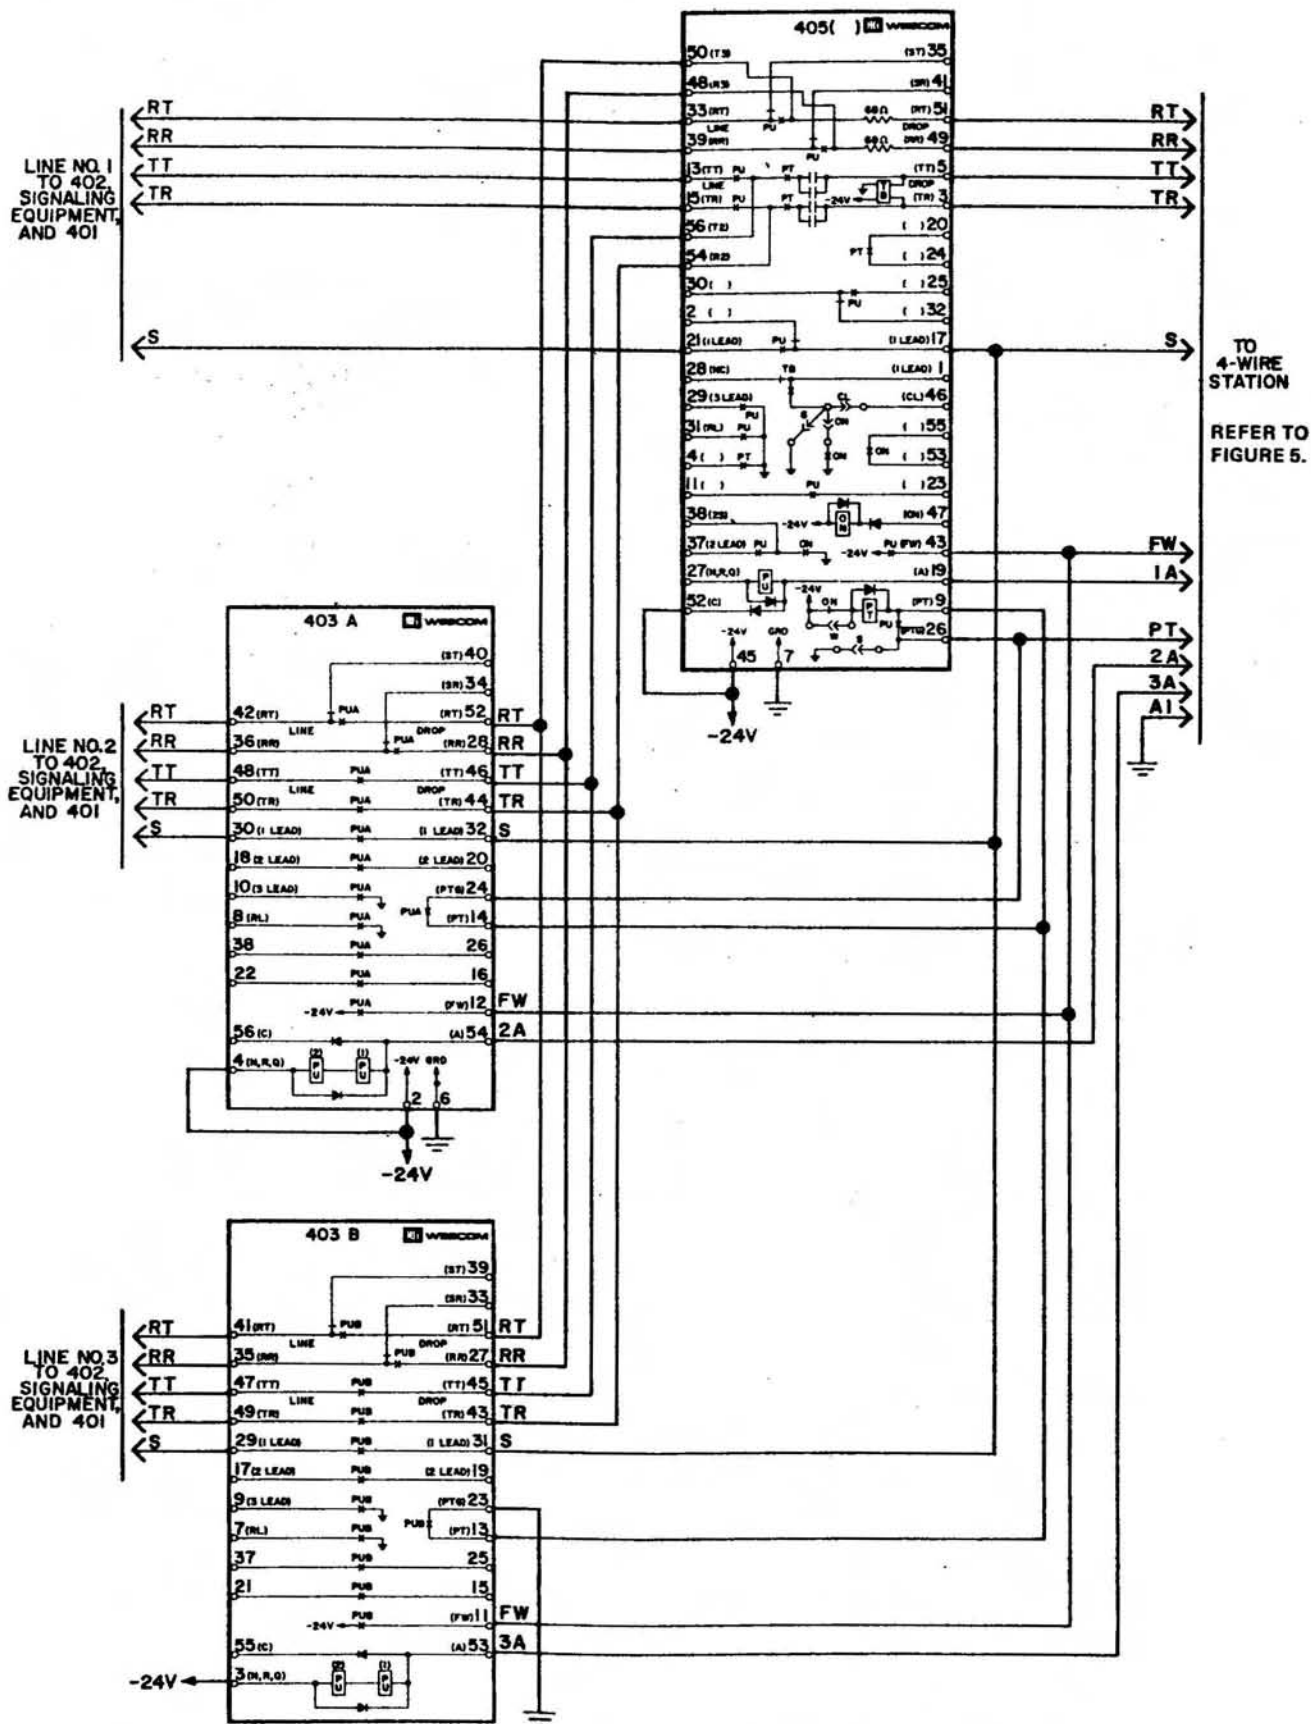
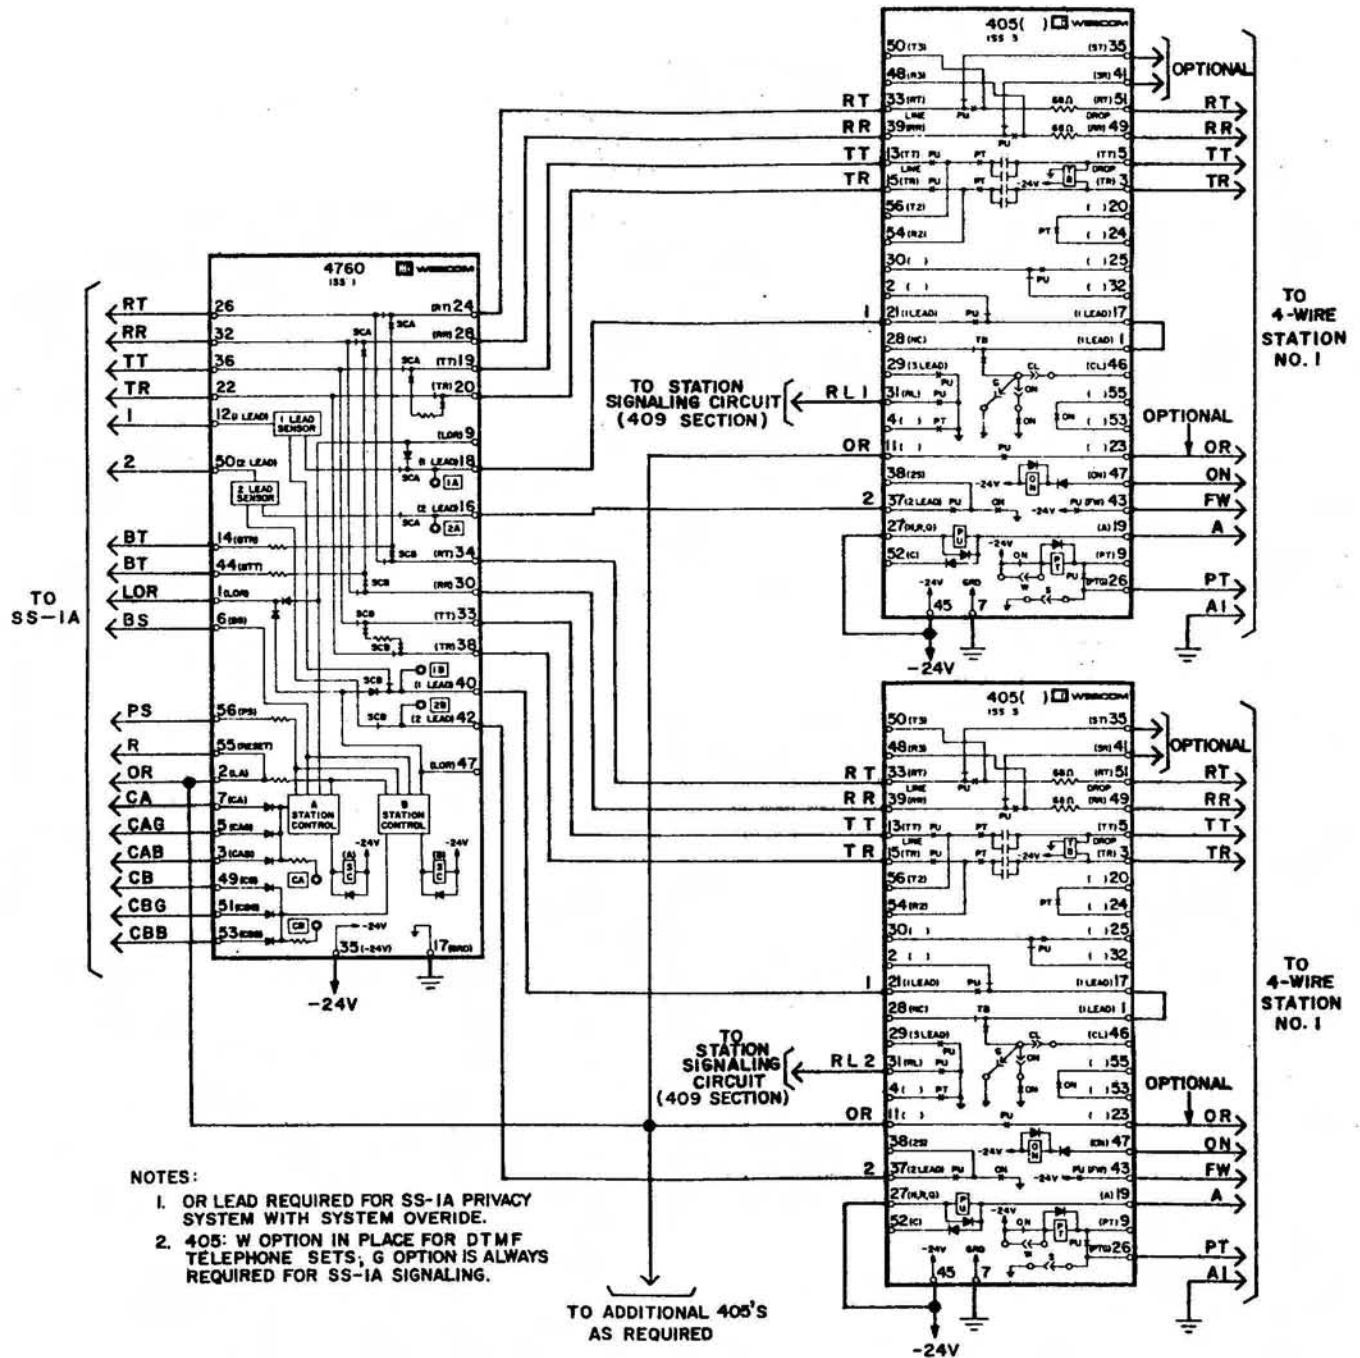

Figure 2. Station Access to Three Lines Using One 405 and One 403
Figure 4. Two Station Access to One SS-1A Line Using Two 405's and One 4760
2.01 The 405 provides a pickup relay circuit and a 4-wire station circuit. It is always used at the station end of a circuit in conjunction with a 4-wire private line telephone or a 2-wire/4-wire key telephone set similar to the Wescom 8640 Telephone Set or the Wescom 8642 Telephone Set, respectively. The 405 is normally used with a Wescom 401 4-Wire Line Amplifier and a Wescom 402 4-Wire Line Termination Circuit and any associated signaling equipment (VF, SS-1A, ringdown, etc.). Typical applications of the 405 are shown in Figures 2, 3, and 4.
2.02 In Figure 2, the 405 is shown connected to a subscriber station. This allows the set access to one 4-wire circuit. The addition of a Wescom 403 Dual Pickup Relay allows the set access to two additional circuits. Each of these three circuits, illustrated in Figure 2, is also terminated in a 402, signaling equipment, and the 401. (This equipment is not shown due to space limitations.) Each circuit would then be connected to a facility (wire line/metallic or carrier multiplex) for transmission to other locations.
2.04 In Figure 4, two handsets are connected to two 405's and then connected to a Wescom 4760 Dual Station Control. This configuration allows the two handsets access to one SS-1A circuit. The use of the 4760 provides individual station lock-out for privacy operation. One or more 403 Dual Pickup Relays may be employed in this application, using the techniques shown in Figures 2 and 3. One pickup relay is required per station control.